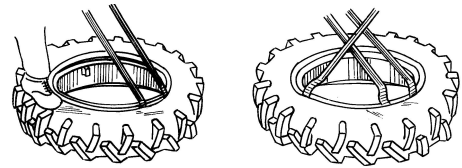

Figure 3-33 Tyre dismantling
- The common wheel tread of the machine type with common ground clearance is 1300mm, and 4 wheel treads can be available through different connecting positions of center plate and tyre rim, as shown in Fig.3-33.